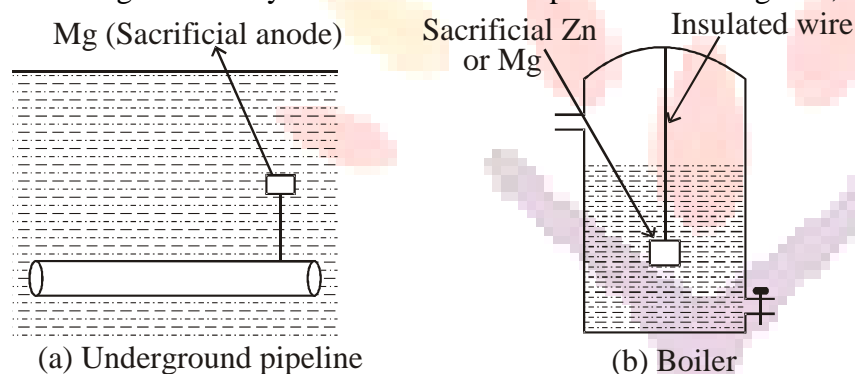

Fig. 3.12 Sacrificial anodic protection
- Protection of underground pipelines, cables from soil corrosion (Fig. 3.12(a)).
- Insertion of Mg sheets into the domestic water boilers to prevent the formation of rust (Fig. 3.12(b)).